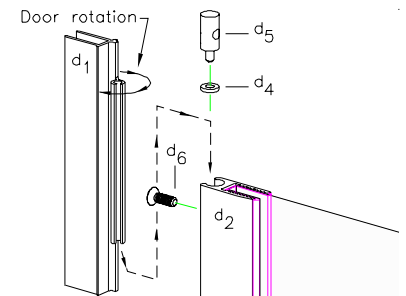

figure 4
8. Insert the Hinge Post (d1) into the Hinge Stile (d2) as shown in figure 4. Take a minute to check the door rotation (*is it the correct rotation for your configuration*)? If it is not, then make it so. When satisfied, proceed.
9. Insert Hinge Washer (d4) and Hinge Bushing (d5) into Hinge Stile (d2) as shown in figure 4. Rotate Hinge Post (d1) out of the way and secure the bushing with one(1) Door Assembly Screw (d6) as shown in figure. Repeat step for opposite end.
11. Insert Strike Post (C) into appropriate Wall Jamb. Measure from bottom of Strike Post (where it sits on Sill) to the bottom of the Door Pull. Trim bottom Seal Vinyl (F) to a 1/4" more than measurement obtained. Insert trimmed Seal Vinyl into Strike Post as indicated in exploded view. Next insert Magnet Strip (G) into Strike Post. Finally insert remaining Vinyl Seal (F) and trim top excess as required.
12. Adjust Door Assembly and Strike Post along curb as required. Note: Bottom of Door Assembly must always remain parallel to Sill in order for door to operate properly. When satisfied with door operation, secure Hinge Post and Strike Post to the Wall Jamb using 638PHPT Adjustment Screws (J), see exploded view - sheet 1.